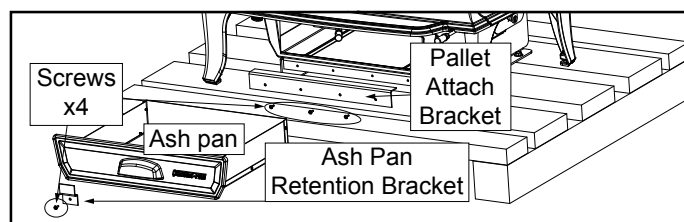

Figure 6.1
2. Using a Phillips screw driver, remove and discard the 4 screws and ash pan retention bracket from front of appliance (**Figure 6.1**).
3. Remove ash pan and set aside (**Figure 6.1**).
4. Remove and discard the pallet attach bracket (**Figure 6.1**).
7. Replace ash pan (**Figure 6.1**).
The Start-Up Air Control has two primary functions. The first function is to activate the Automatic Combustion Control system (ACC). This function is performed by sliding the control all the way back until it stops at the "HI" indicator on the label and then pulling forward to the front of the stove until it stops. This activates the ACC system and opens the front air channel and allows air to enter the front of the stove for approximately 25 minutes. The front air channel gradually shuts down until it is completely closed at the end of the 25 minutes. The fire is now controlled by the air supplied by the Burn Rate Air Control. This function should be performed each time you reload the stove. **Figure 6.1.**
This air supply enters at the upper front of the firebox, near the top of the glass door. This preheated air supplies the necessary fresh oxygen to mix with the unburned gases, helping to create second, third and fourth combustions. This air is regulated by the Burn Rate Air Control. There are four settings High, Medium-High, Medium-Low and Low. When the control is raised all the way up it is on the High setting and when pushed all the way down it is on the Low setting. **Figure 6.1.**